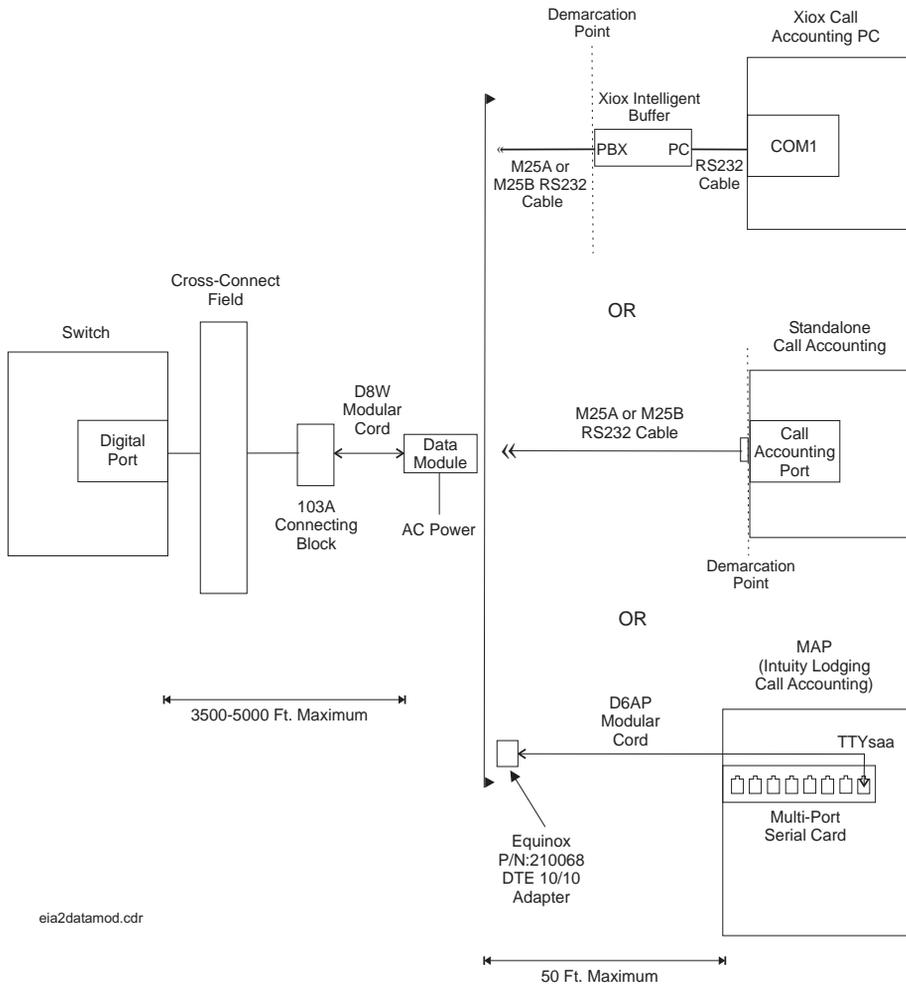

Figure 15. Call Accounting Link using DCP Data Modules
Figure 15 shows the connection between the switch and the call accounting system (INTUITY Lodging Call Accounting or stand-alone call accounting) when using a DCP data module. Use these connections for *r* systems.
5. Reconnect the unit as shown in Figure 15.
6. Reconnect the unit as shown in Figure 15.